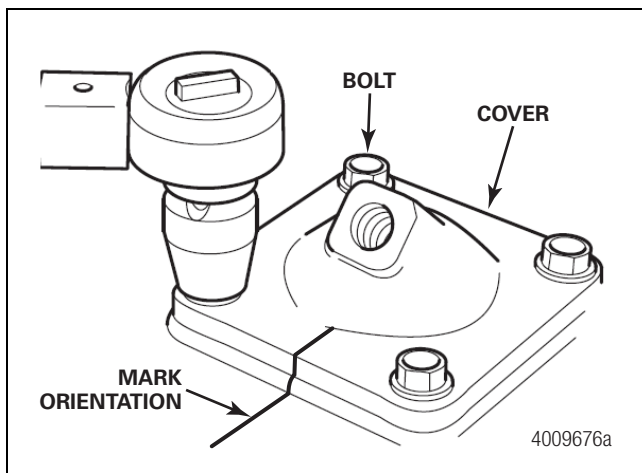

Figure 6.10
4. Apply Loctite® 242 threadlocker to the cover bolt threads. Install the cover bolts and tighten to 15-20 lb-ft (20-27 N•m). Figure 6.10.